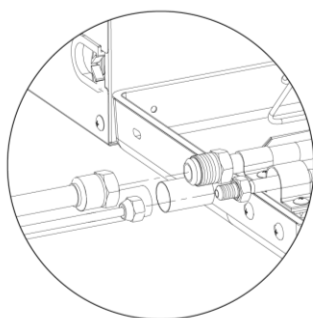

Fig. 13
- (1) Remove pipe cover and pipe plug.
- (2) Direct the flared part of copper pipe to the center of screwed joint. Twist on the flared nut tightly by hand, as in Fig.13. (Make sure indoor pipe is correctly connected. Improper location of the center will prevent flared nut from being securely twisted. Thread of nut will get damaged if the flared nut is twisted forcibly.)